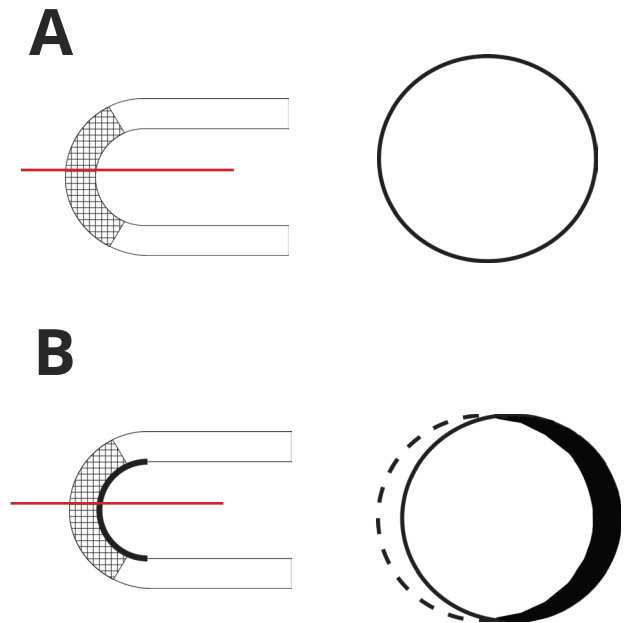

Fig 3:Tension and compression in curved mock vessels with stents deployed
In Fig. 3, a curved tube undergoes equal forces on the inner and outer surfaces of the bend (A), resulting in uniform thickness of the mock vessel at the section indicated by the red line. A straight tube bent into a desired radius (B) results in tension on the outer wall, and thickening of the inner surface of the bend, shown in the crosssection at the red line. The cross-section in B also shows the outer wall moving towards the center of the lumen of the mock vessel; the wall before tension has set in is indicated by the dashed line.